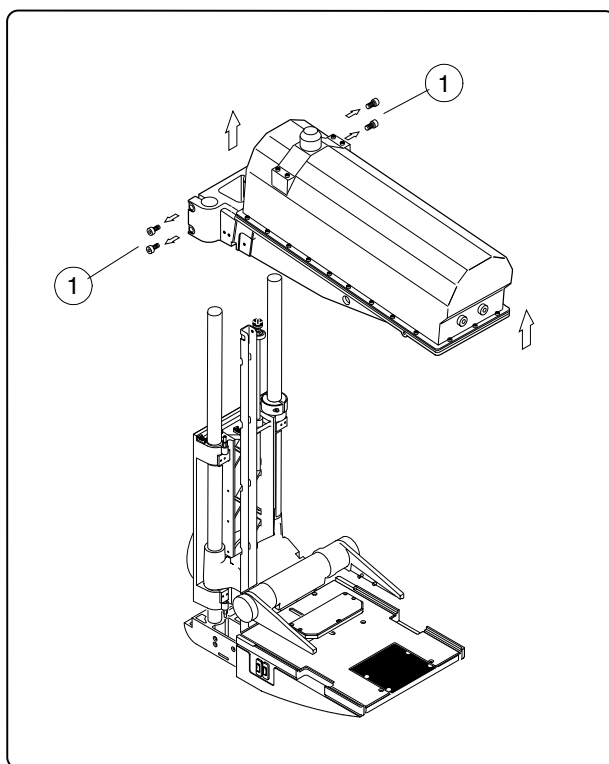

Figure H.18
- b) Loosen the four screws that fix the tubehead cast to the two shafts (Fig. H.18, 1).
- e) Tighten the four tubehead screws (Fig. H.18, 1).